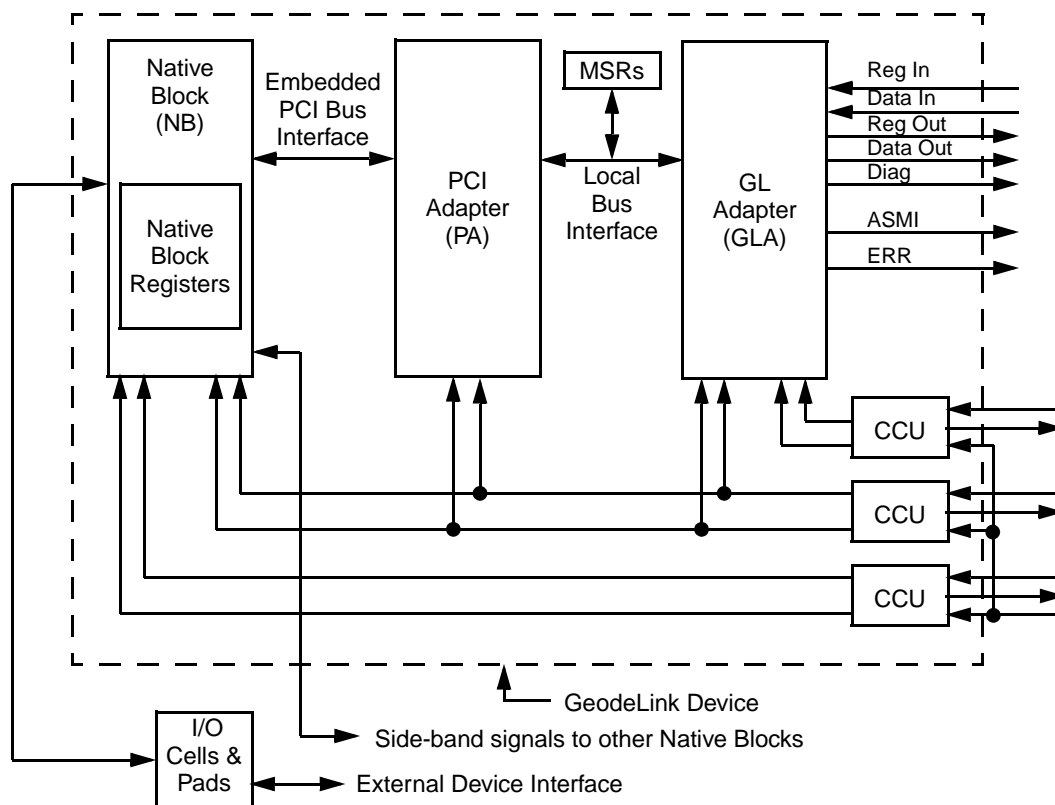

Figure 3-5. CS5535 GeodeLink Device With Embedded PCI Bus
A GeodeLink Device with an embedded PCI bus is illustrated in Figure 3-5. Note the similarity with Figure 3-4 "Typical CS5535 GeodeLink Device" on page 55. The only difference is the PCI Adapter (PA) located in the center of the figure. The PA allows a module designed for the PCI bus to be easily embedded in a GeodeLink architecture. It is used to embed the USB core into the GeodeLink architecture.